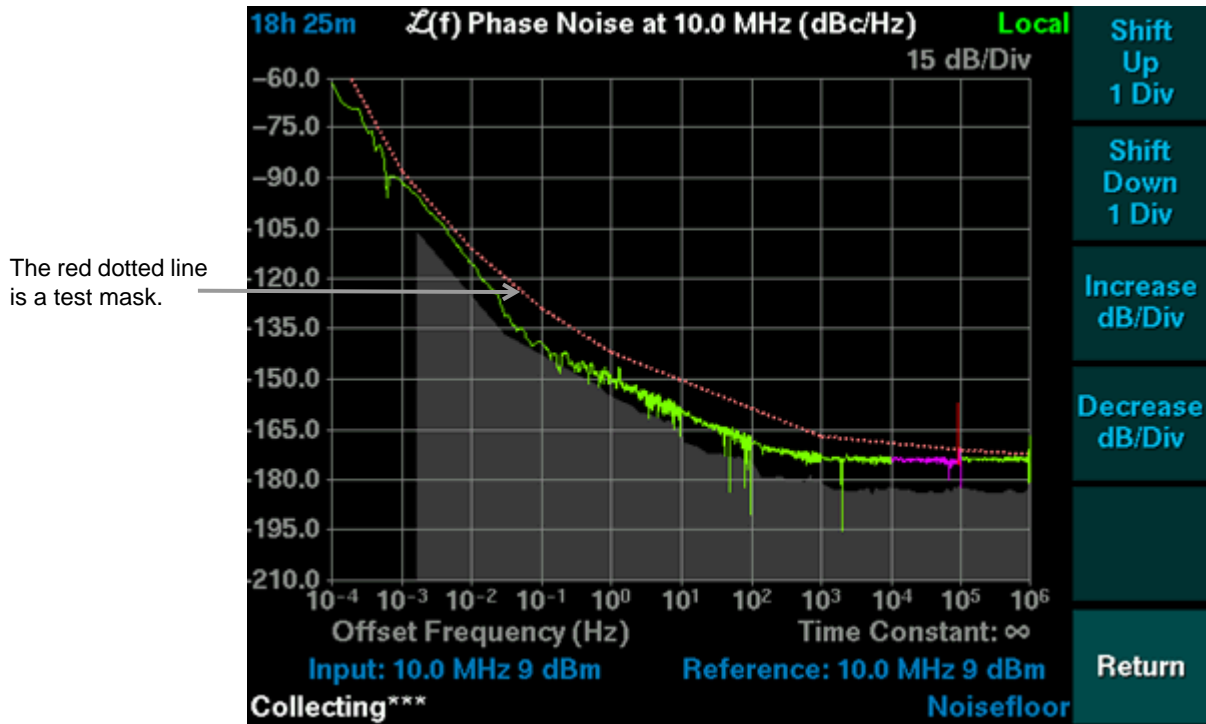
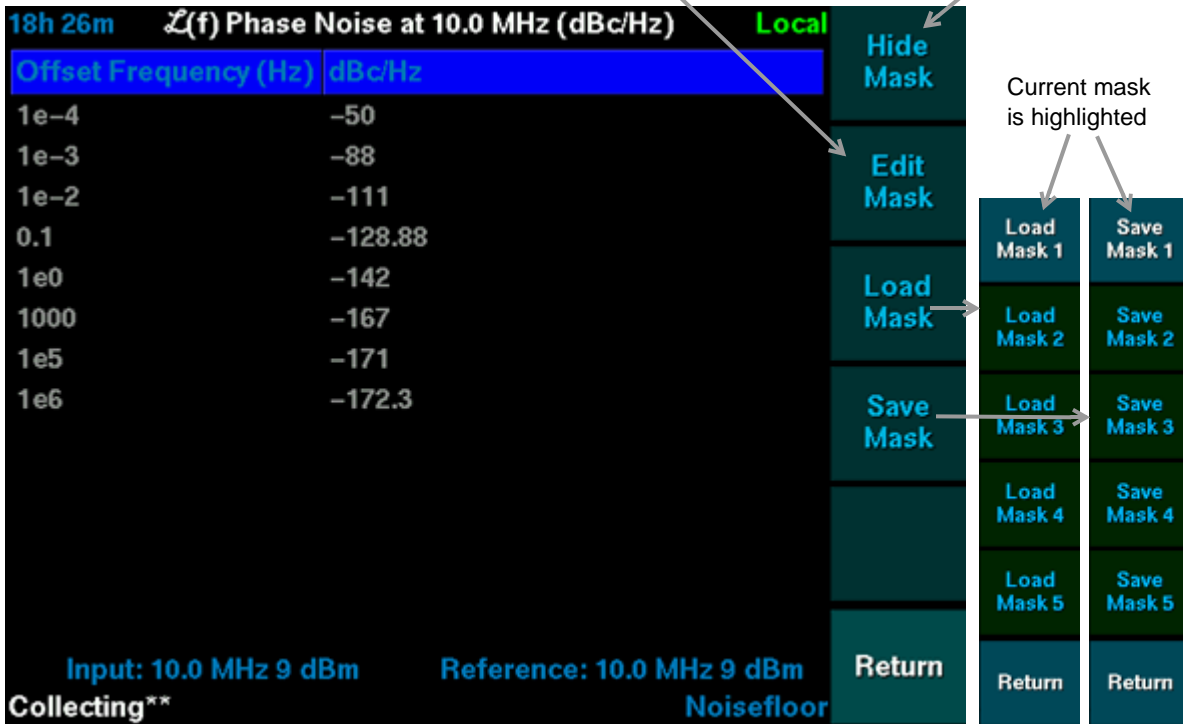

Figure 11: Example Test Mask for Phase Noise
Figure 12: The Test Mask Editor
4. The Test Mask Editor is activated and displays the points in the current test mask. The current test mask is empty when the phase noise test set is shipped. Figure 12 on page 37 shows the test mask editor for the test mask shown in Figure 11 Example Test Mask for Phase Noise.
3. Press one of the softkeys (shown on the right in Figure 12 The Test Mask Editor) to save the mask to the corresponding slot.
3. Press one of the softkeys (shown on the right in Figure 12 The Test Mask Editor) to load the test mask stored in the corresponding slot.